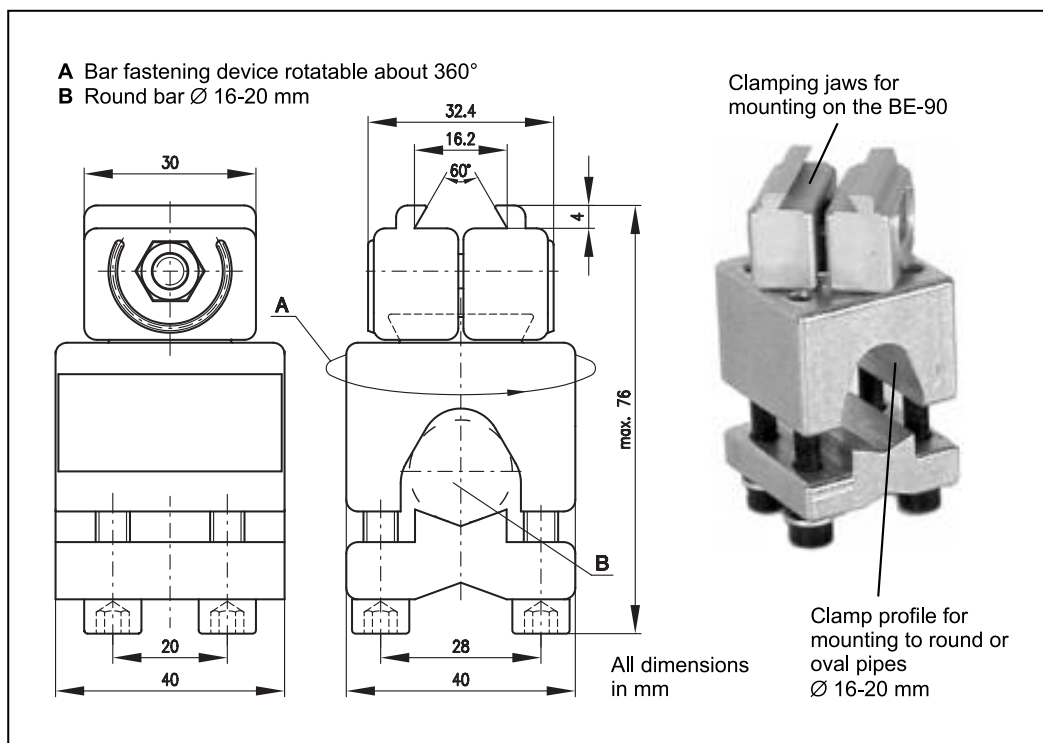

Figure 6-2: Mounting element BE-90
- using the dovetail groove and the corresponding mounting accessories (see Figure 6-2, page 25)